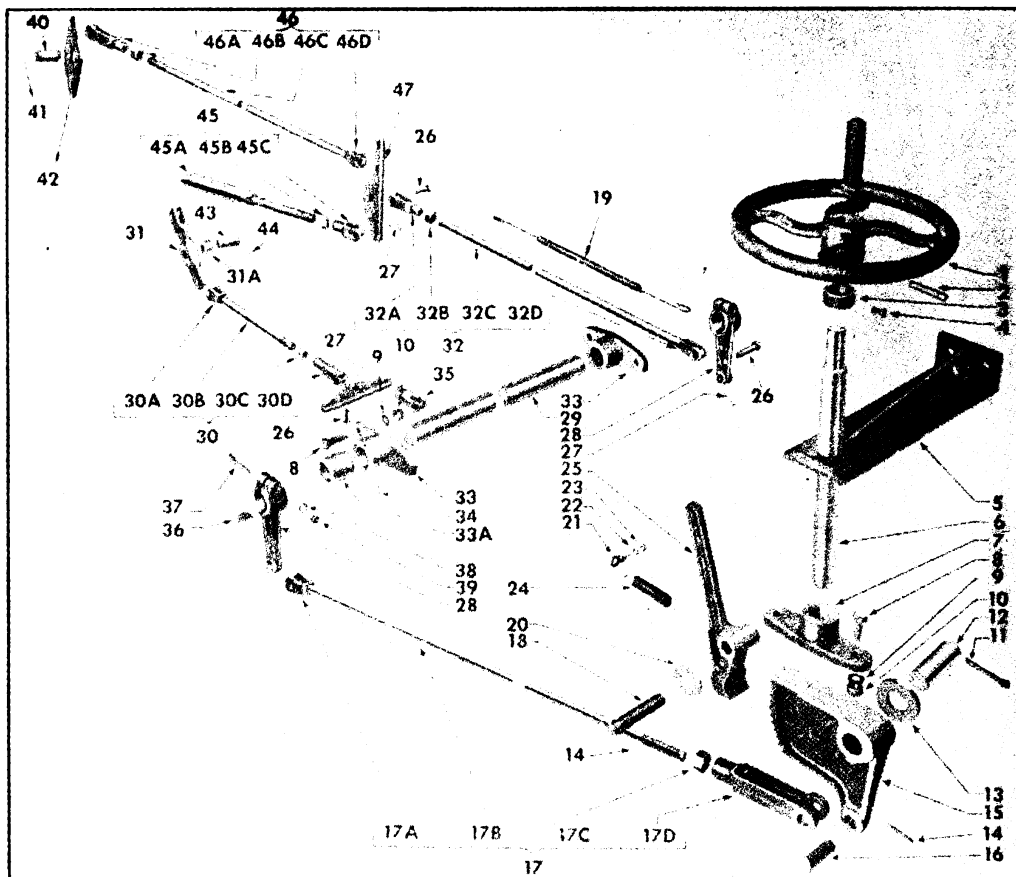

FIGURE 27. HAND BRAKE—EXPLODED
10. CROSS SHAFT (Figure 27).—*a. Removal.*—(1) Disconnect brake rod (32C) which runs between the lever on right-hand side of cross shaft and the ratchet (15).